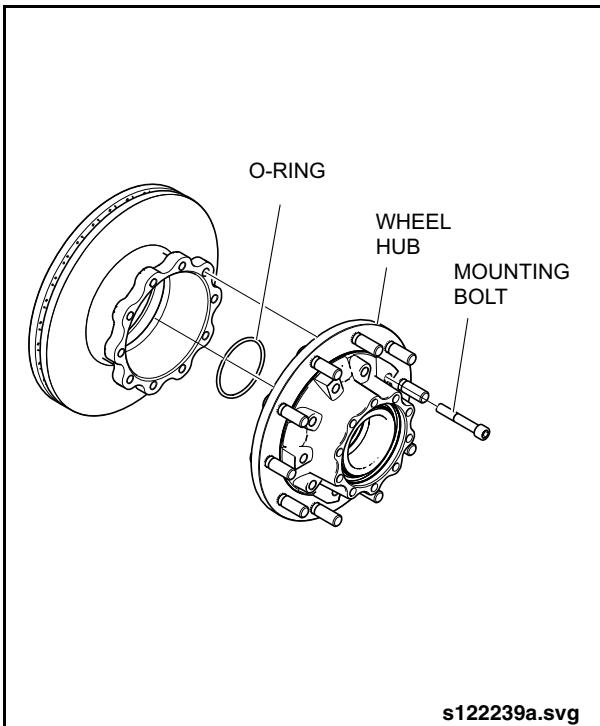

Fig. 2-140: Separating Wheel Hub from Brake Disc
8. Remove the wheel hub mounting bolts. See "Fig. 2-140: Separating Wheel Hub from Brake Disc" on page 119.